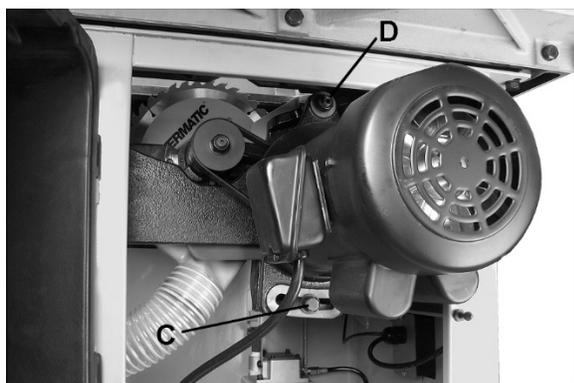

Figure 8-12
See Figure 8-12.
- Loosen screw (C, Figure 8-12) with 17mm wrench.
- Slightly loosen nut (D) with 1-1/4" (or adjustable) wrench.
- Push motor to the right and tighten screw (C) to tension belt. Retighten nut (D). Verify proper tension by pushing on belt midway between pulleys; deflection should be about 1/2-inch.